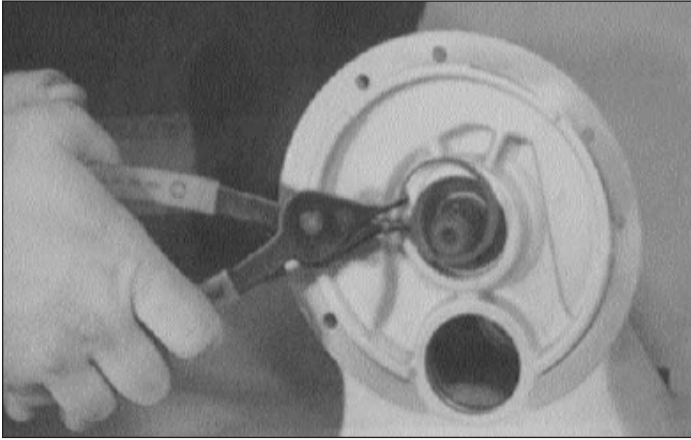

Figure 6-46. Input Shaft Bore Snap Ring
12. Remove snap ring (16) from input shaft bore (12) (Figure 6-46).